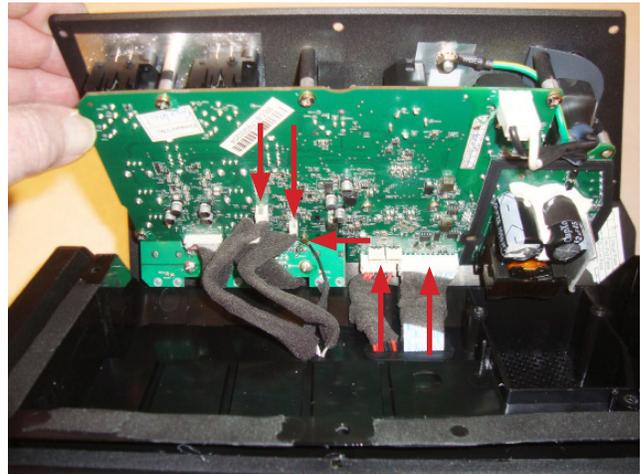

Figure 19
6.2 Lift the main PCB away from the enclosure to expose the connectors as indicated by the arrows shown in figure 19. Remove the connectors.